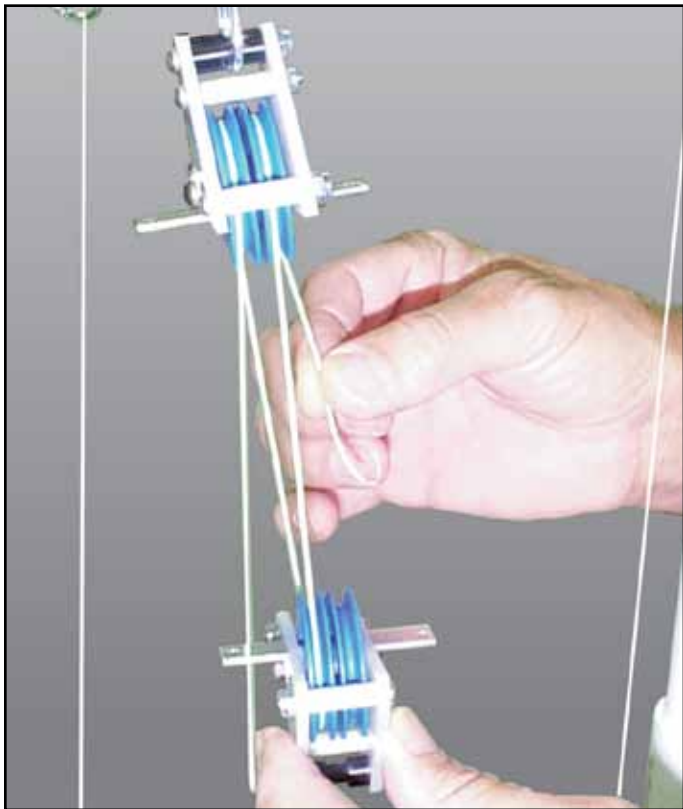

Figure 15
- d. Thread the line over the top pulley on the side nearest the tie-off and down to the inside of the tank (Figure 15).